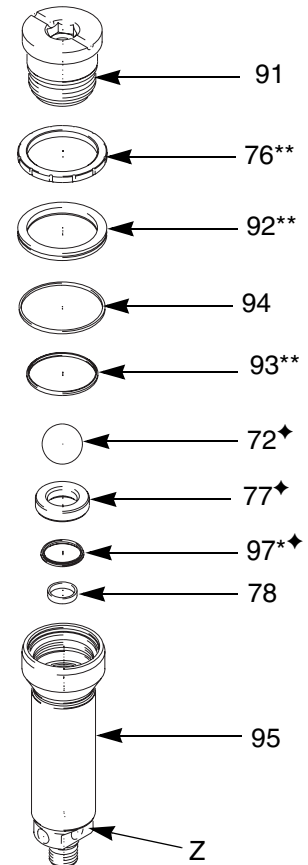
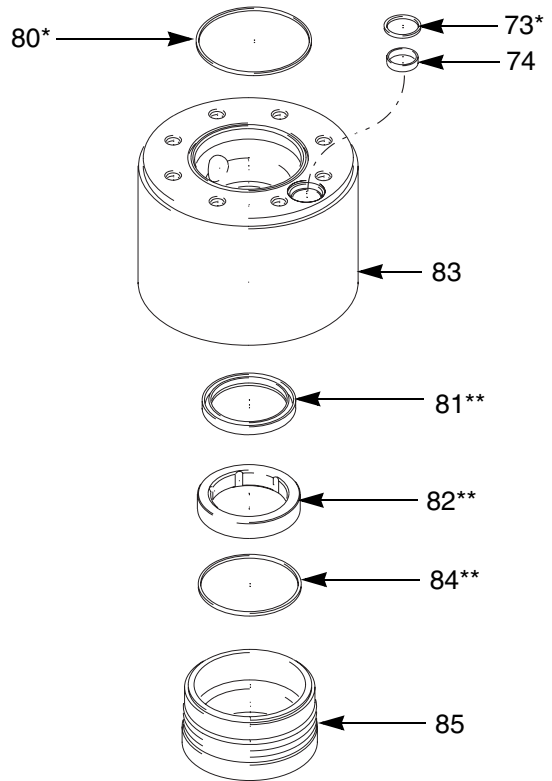

FIG. 12 Piston Assembly Breakdown
FIG. 13
4. Remove the cylinder (79).
6. Remove piston valve (91) from the piston. Be careful not to damage the surface of the piston during repair and maintenance work. Use only the flats (Z) to prevent the piston from rotating when removing the screw. (See FIG. 12.)
7. Note the positions and orientations of the guide ring (76**), the U-cup (92**), and the sealing ring (94) assembled onto piston valve (91). Remove these parts and replace with parts from the appropriate Packing Repair Kit (page 26).
9. Remove the sealing ring (93**) from inside the piston (95) and replace.
10. Note the positions and orientations of the packing retainer (85), the flat seal (84**), the guide ring (82**) and the U-cup (81**) as you remove them from the packing housing (83). Replace the soft parts with those included in the packing repair kit. See FIG. 13.
1. Insert the U-cup (81**), guide ring (82**), flat seal (84**), and packing retainer (85) into the packing housing (83). See FIG. 13.
2. Insert the sealing ring (93**) into the piston (95). Replace the piston (95) if it shows signs of wear. Check that ring (78) is in place. See FIG. 12.
3. Verify correct assembly of suction valve parts (97***, 77**, and 72**). See FIG. 12.
4. Assemble the guide ring (76**), U-cup (92**), and sealing ring (94) on the piston valve (91). See FIG. 12.
5. Install the piston valve (91) onto the piston (95). Retighten the piston valve (91) firmly. See FIG. 12.